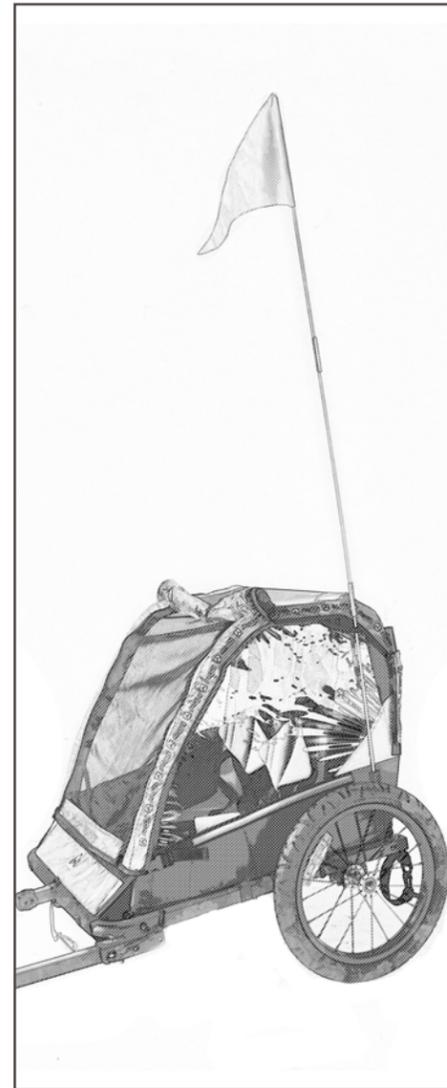

Figure 23
2. Locate flag pocket in trailer cabin fabric, and insert flag in pocket (Fig. 23.)